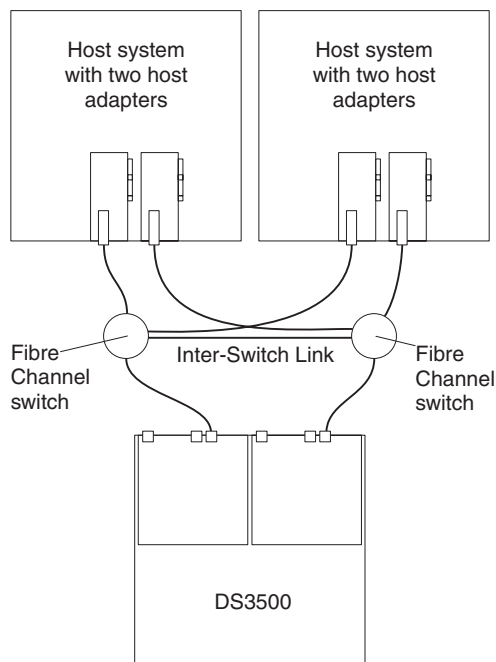

Figure 3-46. Example of a single Fibre Channel SAN fabric configuration
- Single SAN fabric configuration, as shown in Figure 3-46
In Figure 3-46, the Fibre Channel switches are connected together through the Inter-Switch Link (ISL) to form a single SAN fabric.